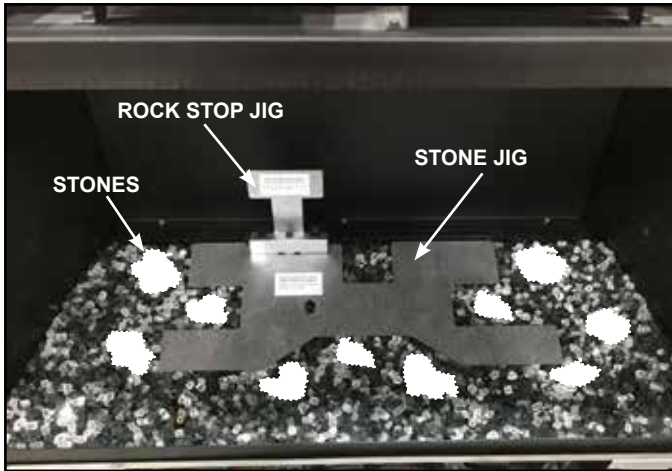

Figure 9.5 Stone Jig in Place with Stones
1. Place stone jig on glass media with “STONE JIG” facing up. Ensure that the stone jig sits flush against the rock stop jig. See Figure 9.5.